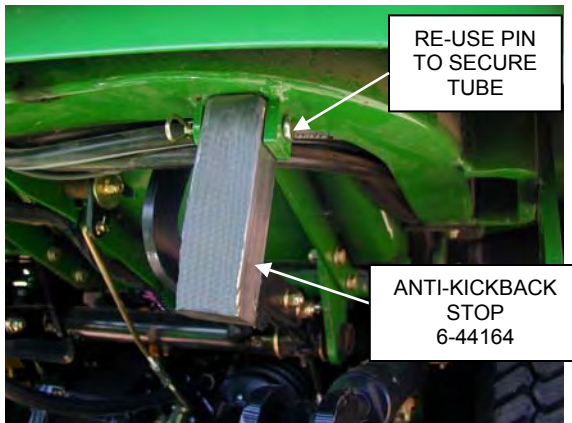

Figure C1
- C. Re-use the pin to secure the Anti-kickback Stops # 1-44164. See Figure C1 and C2.